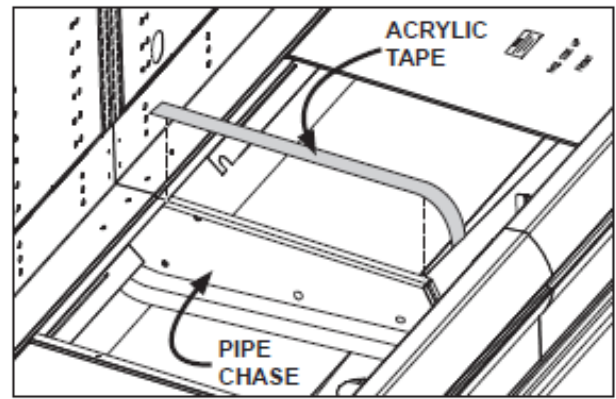

Fig. 2 Attaching the "J" Rail
3. Apply the foam tape gasket (supplied) and a bead of butyl or silicone sealant to the end of the first case (Fig. 2). From the opposite end, push the second case to a position that is approximately 6" from the first case, then remove the remaining casters and position case on the shim packs.
5. Seal the case-to-case joints with caulk (supplied), then apply acrylic tape (supplied) over the pipe-chase seam (Fig. 2). The tape acts as a watershed preventing water from settling in the case joint.
7. Attach the "J" rail with the supplied screws (Fig. 2).